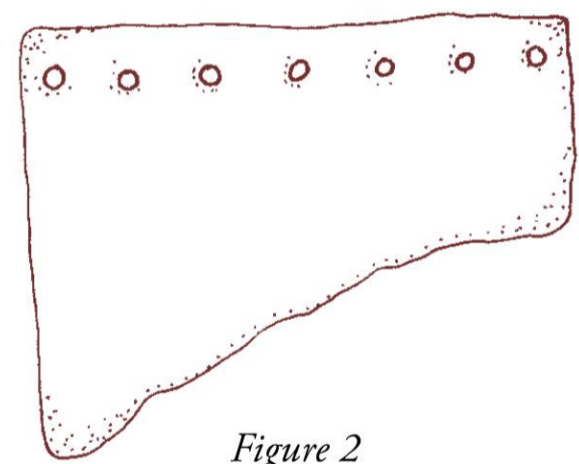

Figure 2
**3** Mark with the pen along the edge of the long 2-inch (5.1 cm) side, and punch holes (see photo A) approximately ¼ inch (0.6 cm) apart, starting ¼ inch (0.6 cm) from each end and ⅛ inch (0.3 cm) from the edge (see figure 2). You can instead use a drill with a small bit. Either way, be sure to wear safety glasses.